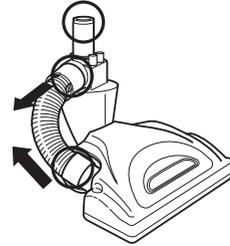

Fig. 29
- Detach the hose on the motorized floor nozzle. Pull the bottom of the hose out of the connector, and release the top of the hose by squeezing the tabs together. Check the hose and the openings for blockages. **(Fig. 29)**